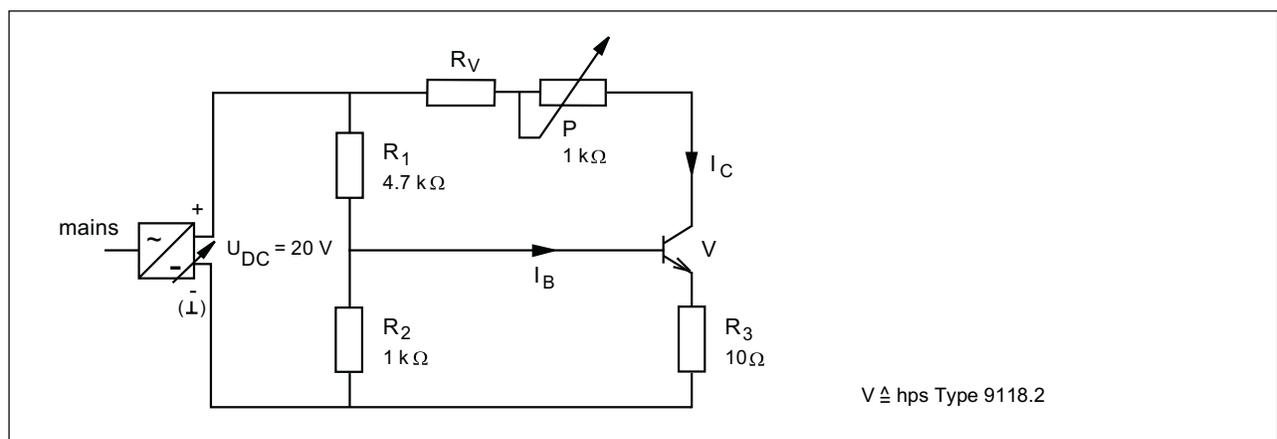

Fig. 4.2.2.1
- Apply a DC voltage of  $U_{DC} = 20 \text{ V}$  to the circuit shown in Fig. 4.2.2.1. Measure the base current  $I_B$
- On the diagram (Fig. 4.2.2.2), plot a graph showing the dependence of the base current  $I_B$  on the collector current  $I_C$  (at a constant base/emitter voltage).